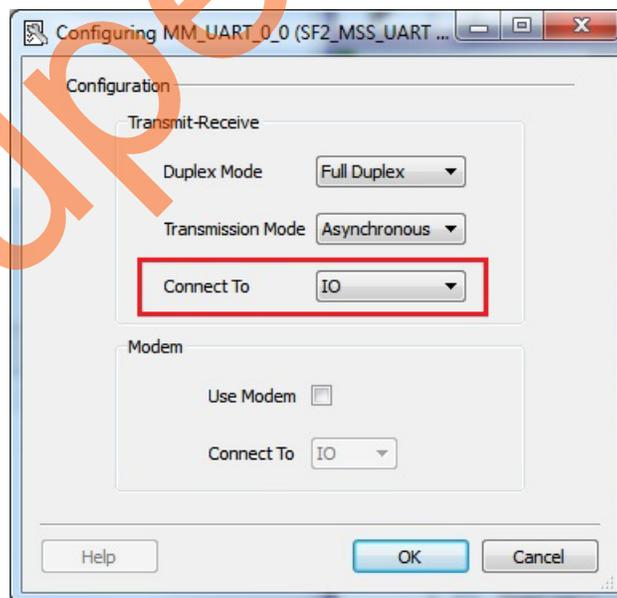

Figure 13 • MM_UART Configuration
13. Select **IO** from the **Connect To** drop-down list and retain the default settings as shown in Figure 13.